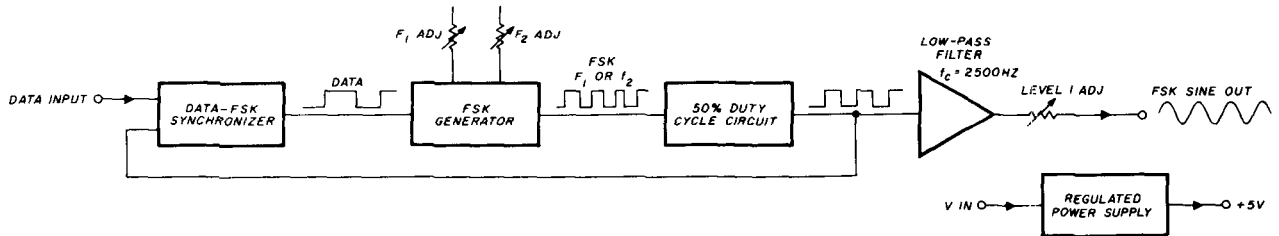

fig. 3. Block diagram of an AFSK generator capable of coherent frequency shifts. Lowpass filters reduce the harmonic content to acceptable levels.
**fig. 3.** Timing diagram of the digital voltmeter IC. The MSB data output appears on  $Q_3$  during DS1 time. In this example,  $Q_3$  is a one for any input voltage between 0.000 and 0.999 volt, indicating that the N-E-S hemisphere is selected. The next most significant digit appears during DS2 time. As indicated, DS2 shows data for a value of 0.50 to 0.59 volt, indicating that the antenna is within sector 5.
A block diagram of an AFSK generator is shown in fig. 3. The generator begins with an oscillator set to twice the needed frequency. When a mark or space is needed, the oscillator's frequency is adjusted for the proper frequency change. A divide-by-two circuit generates the correct frequencies for the AFSK output waveform, with a lowpass filter removing objectional harmonic energy from the square wave — resulting in a near sine wave output.